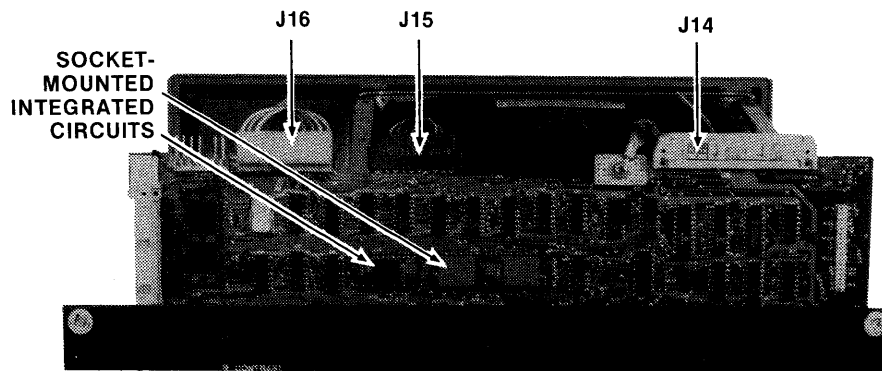
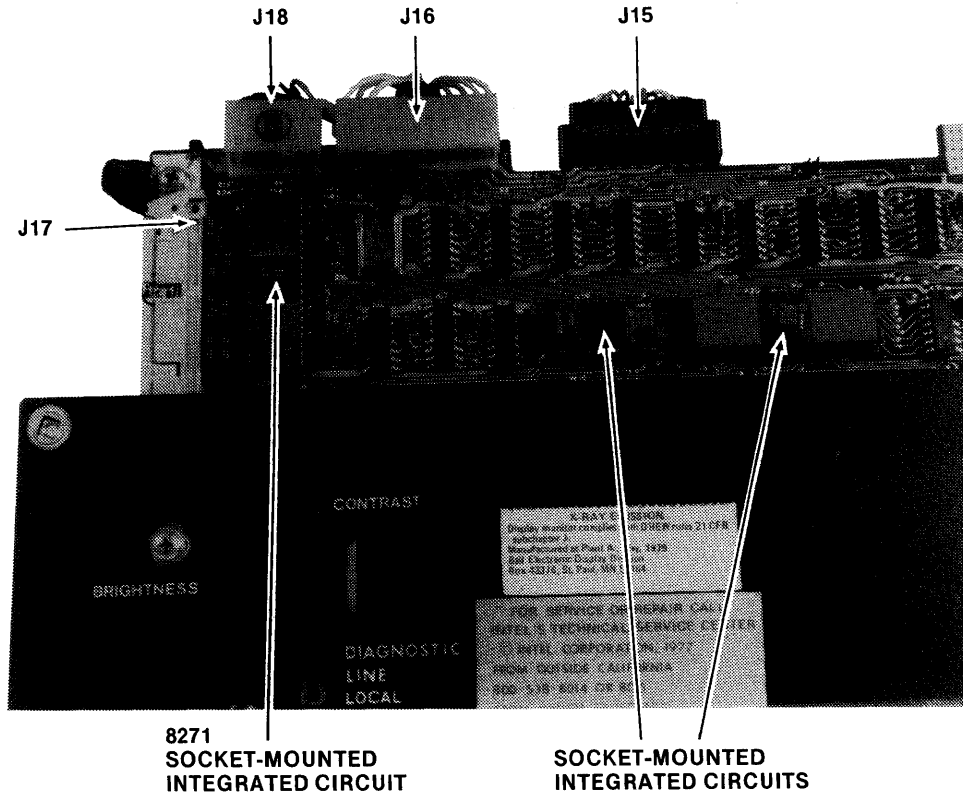

Figure 2-2. MDS-230 Edge Connectors and Socketed Integrated Circuits
Figure 2-3. MDS-220 Edge Connectors and Socket-Mounted Integrated Circuits
3. Refer to Figure 2-2. On the Model 230, there are three edge connectors (J16, J15, and J14, from left to right) at the top of the printed circuit board at the rear of the chassis. The Model 220 has two more connectors, J17 and J18, to the left of J16, shown in Figure 2-3. Carefully remove each, then push it back on firmly to ensure proper seating.
4. There are integrated circuits (two on the Model 230; three on the Model 220) mounted in sockets below the three connectors described in Step 3, and shown in Figure 2-3. Push these firmly into their sockets to ensure proper seating.